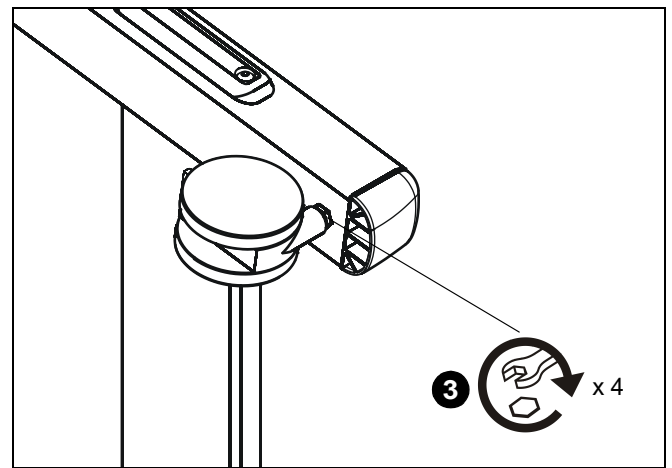

Figure 26
3. Check and tighten the hex nuts on the casters occasionally. (See Figure 26) These should be checked especially after use on uneven ground.